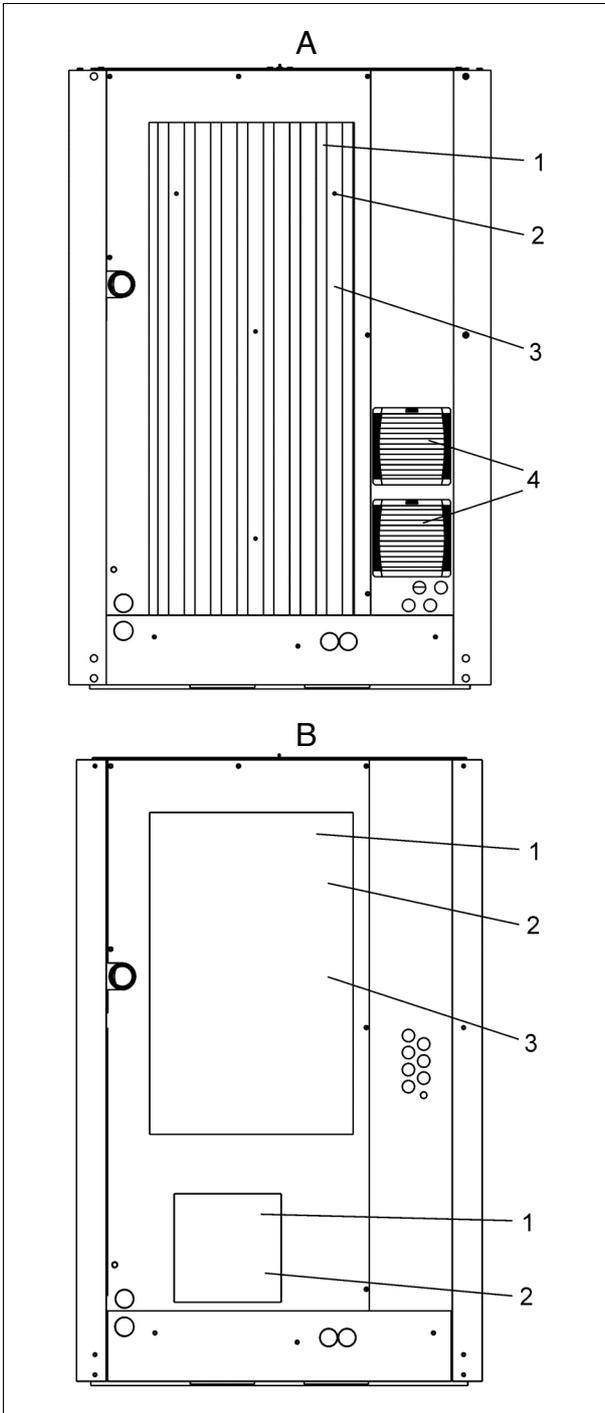

Fig. 26
- Remove fixing screws (-2- Fig. 26).
- Remove filter mat (-1- Fig. 26) and clean, exchange if damaged. Clean the filter mat by brushing or washing.
- Re-insert filter mat in sound insulating panel (-3- Fig. 26).